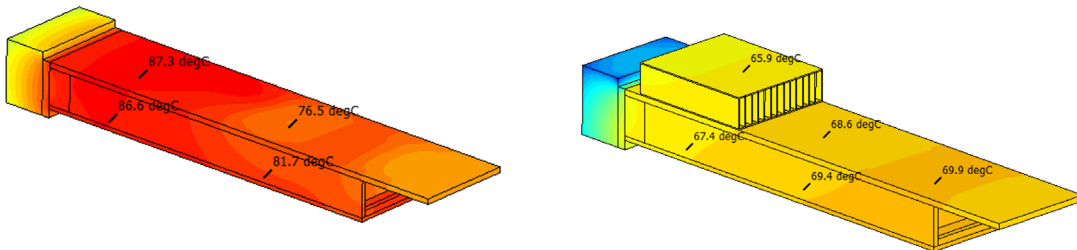

Figure 2 Surface Temperature Maps of Thermally Inefficient and Optimized High-Power Optical Modules Under the Same Boundary Conditions
- Choosing DSPs (digital signal processors, the highest-power component of optical modules) that have efficient package thermal design, with low junction-to-case thermal resistance and higher junction temperature limit. Figure 2 depicts the surface temperature maps of thermally inefficient and optimized high-power optical modules.